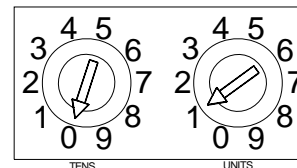

Figure 3: Rotary Decade Address Switches
1. Set the sensor address (see Figure 3) by using a flat blade screwdriver to turn the two rotary switches, selecting the desired number between 01 and 99. Record the address on the label attached to the base.